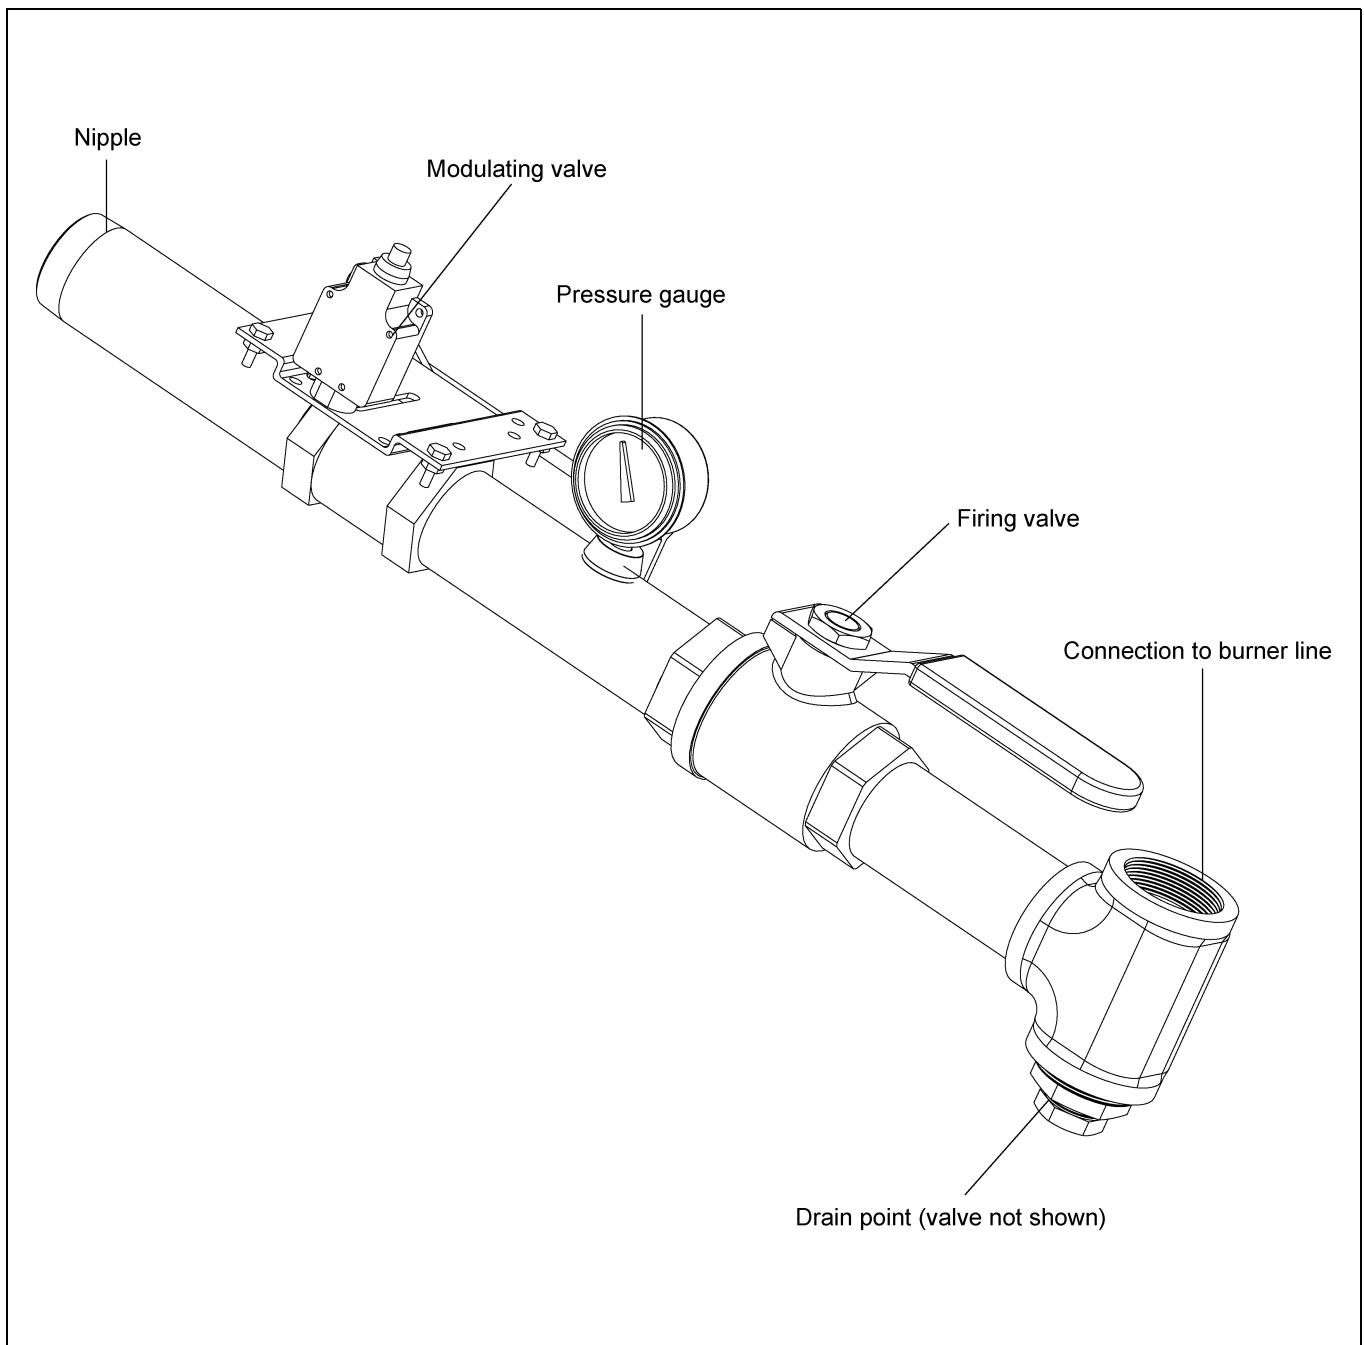

Figure 7G Modulator Section (Modulating Motor Not Shown)
- h. When the plenum reaches set point, adjust the MINIMUM setting on the modulating valve *(See Figure 7G on Page 44)* to the required setting. *(See Table on Page 16.)*